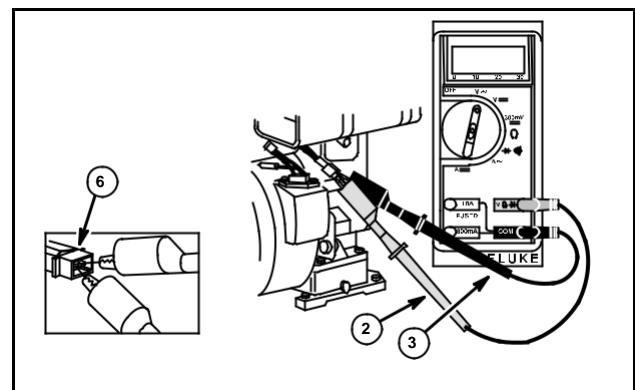

Fig. 20
- a. (Quad Circuit and 10 & 16 amp Regulated Alternators) Insert RED (2) and BLACK (3) test lead probes into output terminals in yellow connector (6), as shown in Fig. 20. (Meter test clip leads may be attached to either terminal.)